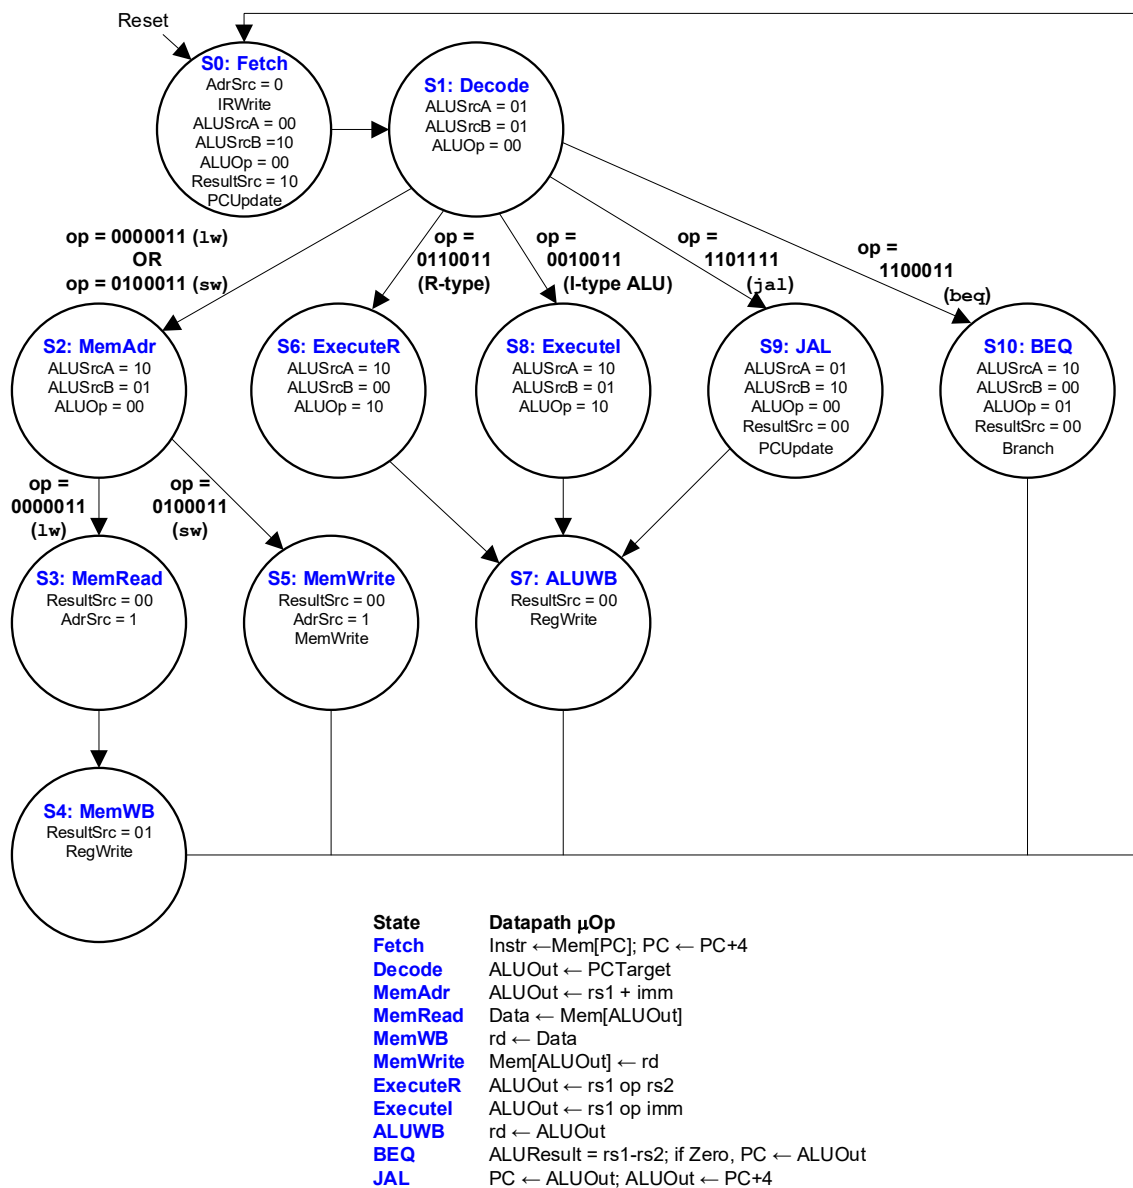

Figure 2. Complete multicycle control Main FSM state diagram
- Figure 2 shows the multicycle control Main FSM state diagram